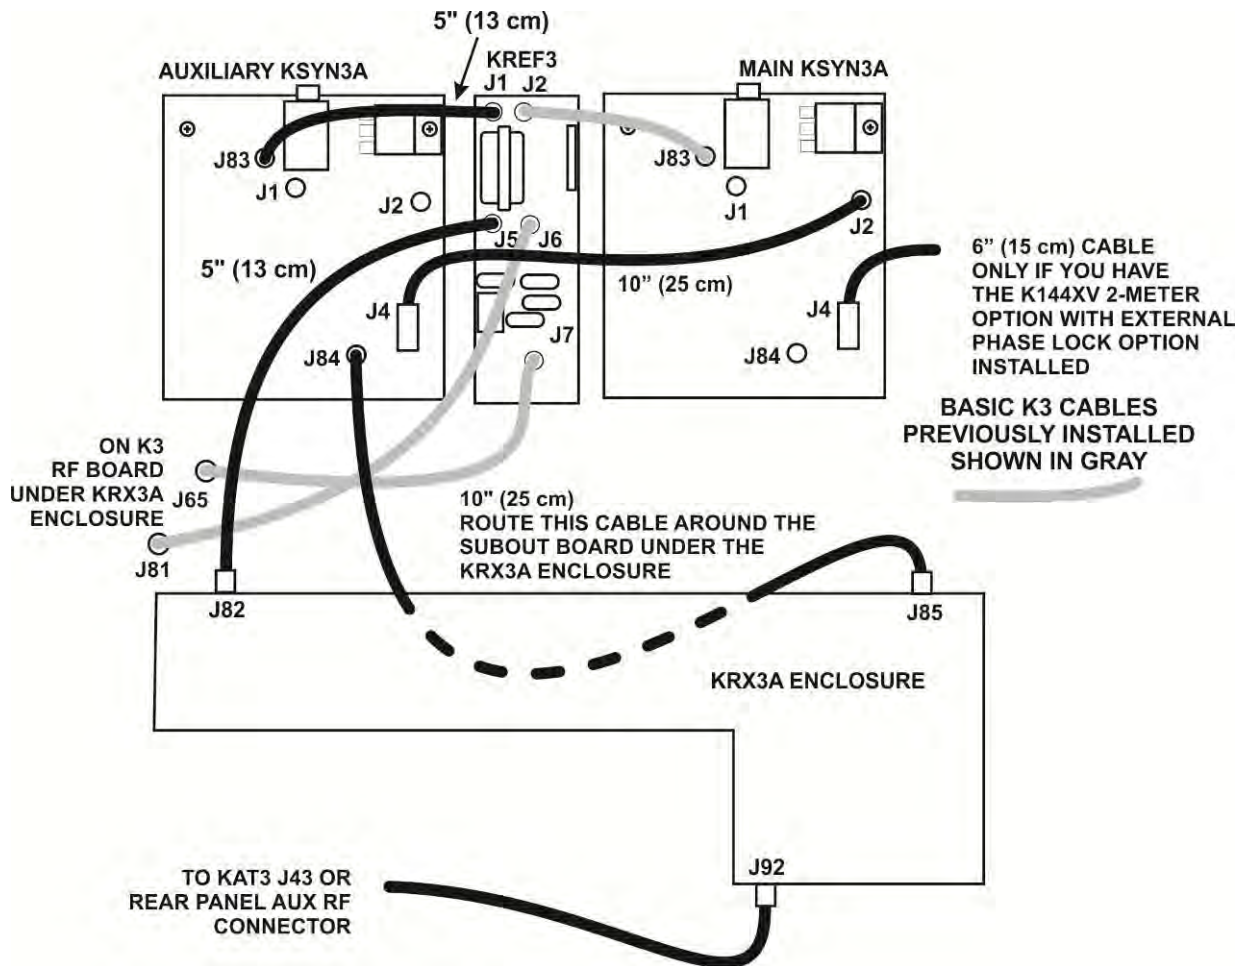

Figure 47. TMP Cable Connection Pictorial Diagram.
□ If you have the K144XV 2-meter option with the K3EXREF phase lock option installed, connect one 6” (15 cm) cable to J4 on the Main KSYN3A board (see Figure 47). The other end will be connected to the K144XV module when you reinstall it later.
Connect the 10" (25 cm) TMP cable you connected to J4 on the Auxiliary KSYN3A earlier to J2 on the main KSYN3A board (see Figure 47).
⚠ That will complete all of the cables shown in Figure 47 except the cable between J83 on the Auxiliary KSYN3A and J1 on the KREF3 board. This will be installed after the KRX3A enclosure is installed. You may wish to remove the existing cable between J2 on the KREF3 board and J83 on the main KSYN3A board to provide better visibility when installing the KRX3A RF enclosure in the following steps.
Hold the assembled KRX3A module directly over the K3 and attach the TMP cables to J82 and J85 on the module as shown in Figure 47.
Connect a 5" (13 cm) TMP cable between J1 on the KREF3 board and J83 on the Auxiliary KSYN3A board (see Figure 47).
If you removed the cable between J2 on the KREF3 board and J83 and the Main KSYN3A synthesizer, replace it now (Figure 47).